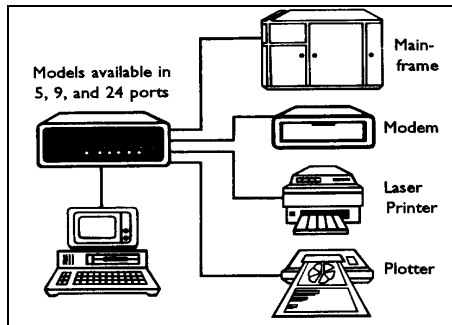

Figure 1: A Series Application
The 524A(P) models have one host port and four peripheral ports. The 528A(P) models have one host port and eight peripheral ports. The Model 5218AP has one host port and seventeen peripheral ports. *Figure 1* below shows a typical application using an A Series multiport controller.